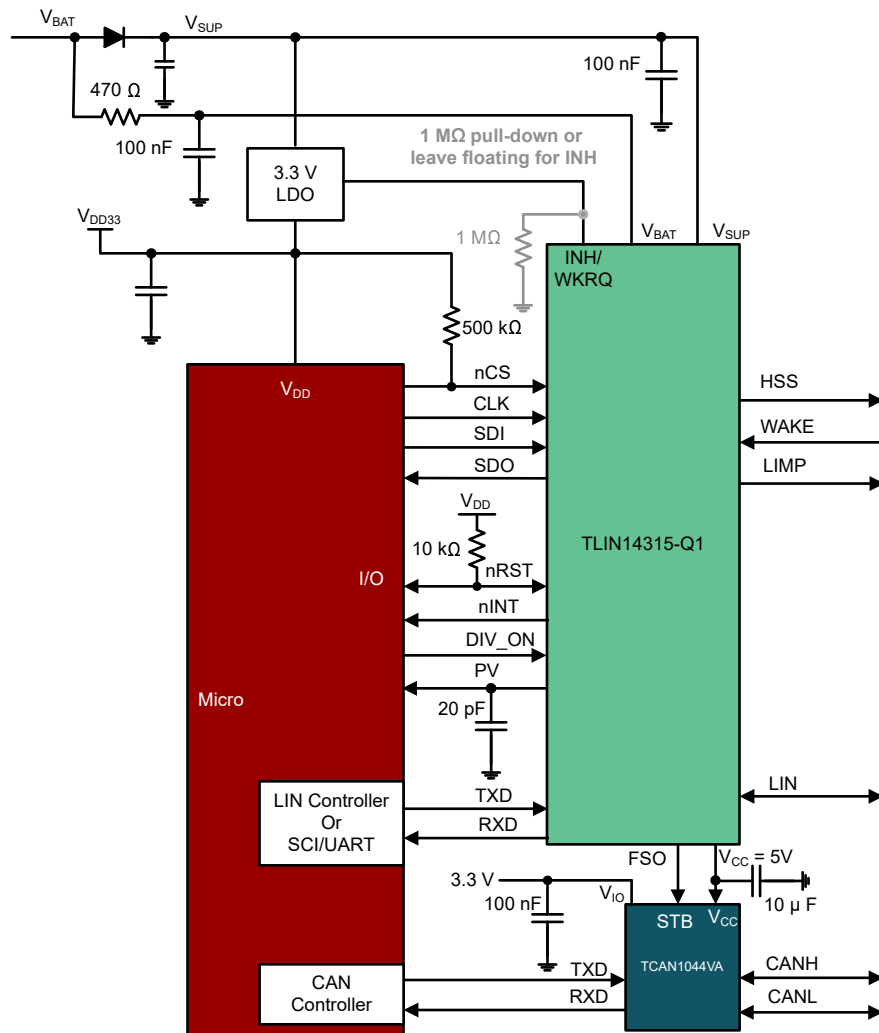

图 8-22. Channel Expansion: CAN Transceiver
- One LIN and one CAN FD transceiver by using a simple eight pin CAN FD transceiver (see Figure 8-22)